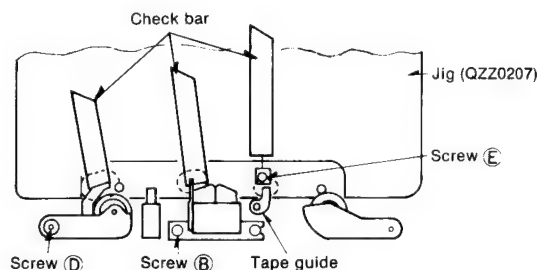

Fig. 8
- Return screw (A) by three turns, screw (B) by three turns and screw (C) by one turn.
- Set the jig (QZZ0207) in place and set the mode to "play". Then adjust the heights of pinch roller (L), record/playback head and tape guide. By using the check bar as in Fig. 8, adjust the height adjusting screw so that the tape guide does not touch the screw.